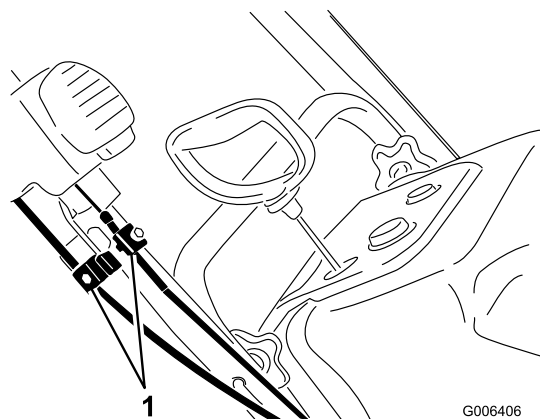

Figure 39
1. Loosen the two Quick Shoot control cable clamps (Figure 39).